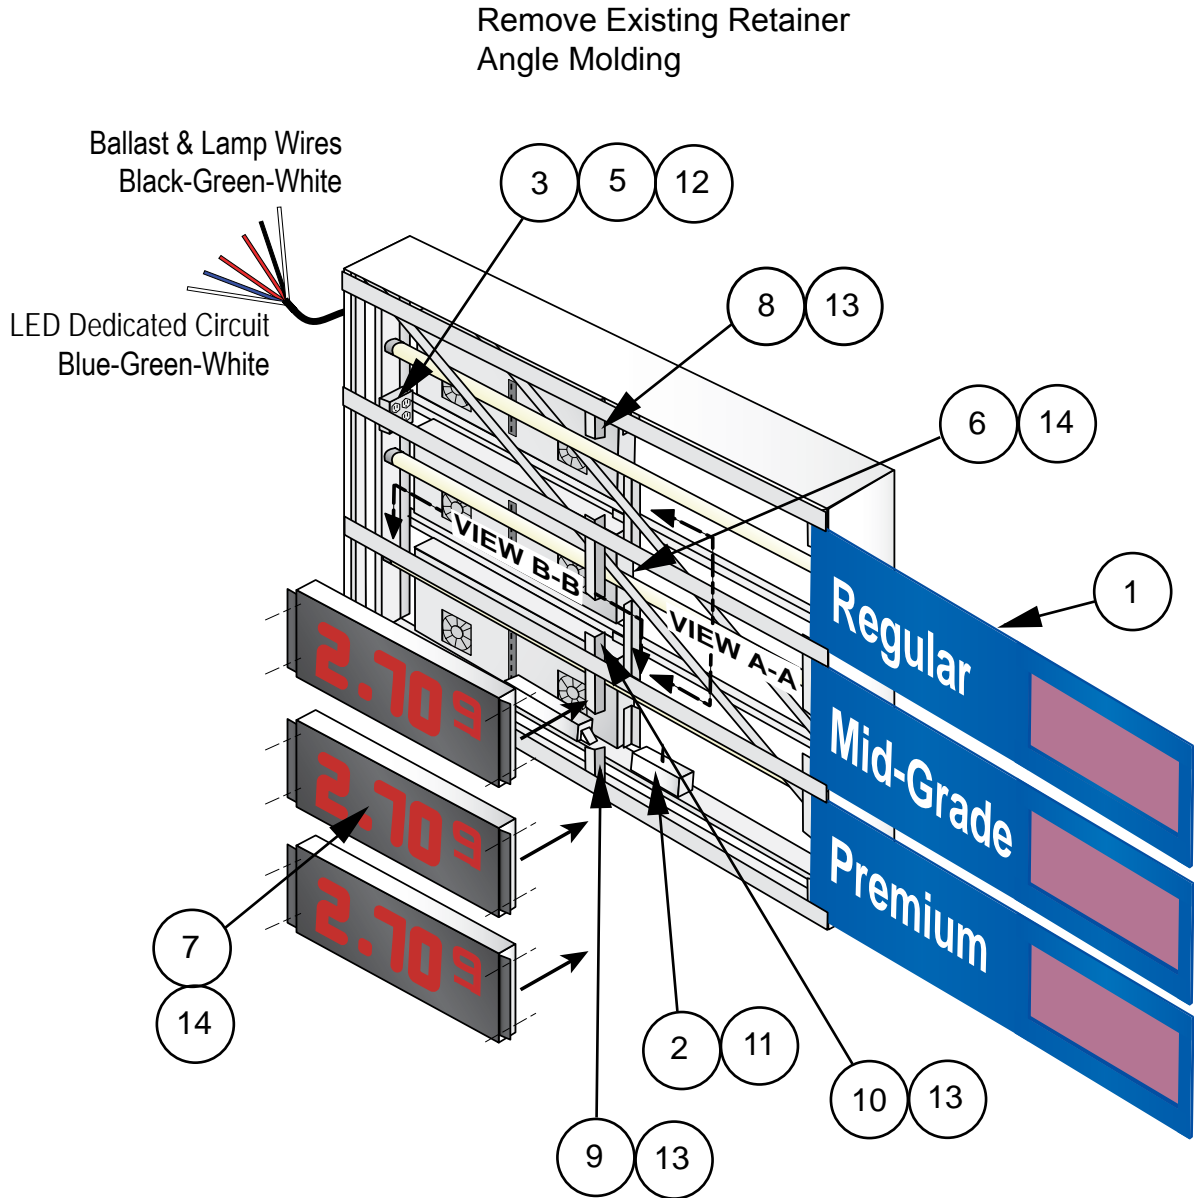

Figure C1: Cabinet Assembly
STEP 2: Remove Face Panel cabinet retainer angle (Figure C1) and slide out all the pricing Face Panels (Item 1) that are to be replaced then remove all the lamps.
STEP 3: Find a good location for the installation of one or more of the Outlet Electrical Boxes (Handy Box). Mark the location, unscrew and remove the Raceway Cover (Figure C1).
NOTE: There are three types and two lengths of angle mounting members (See Figure C1). The two shorter ones (Items 8 and 9) are used for the top or bottom modules and the longer one (Item 10) is used for modules that go in the middle of a cabinet. For multiple Digit Module installations it is recommended to start at the top and work down.
STEP 7: Attach the Remote Control Box to the Raceway closest to the top inside Digit Module location. Use the four #10-24 Sheet Metal Screws (Figure C1).